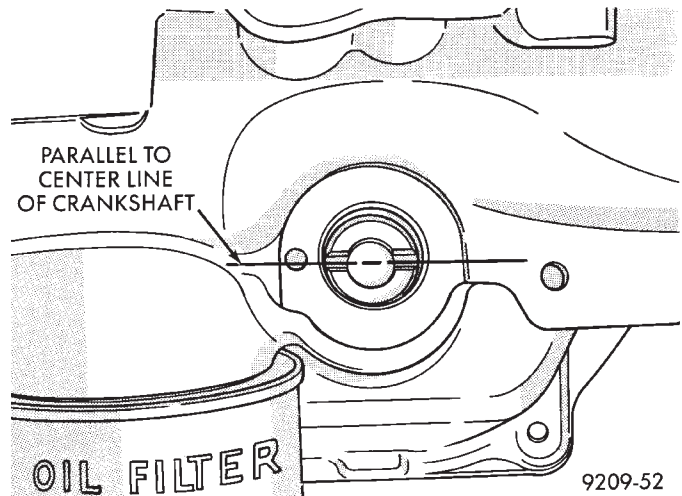

Fig. 7 Oil Pump Shaft Alignment
(4) Slot in oil pump shaft **must** be parallel to center line of crankshaft when intermediate shaft and crankshaft are properly timed (Fig. 7).